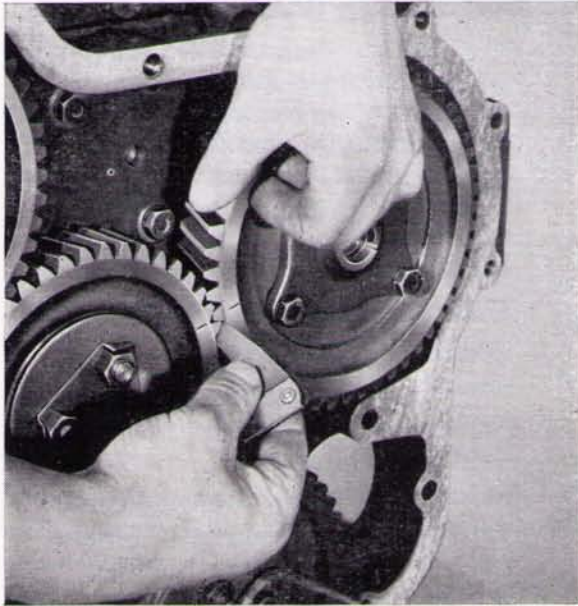

Fig. M.4.
2. Check the back-lash between the gears as seen in Fig. M.4 using a feeler gauge. The